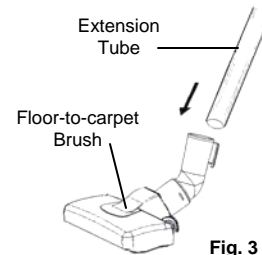

Fig. 3
3. Push the lower extension tube into the floor-to-carpet brush. (Fig. 3)